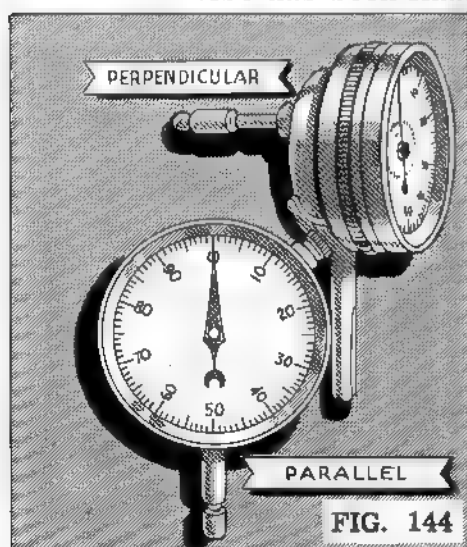

FIG. 144
Dial indicators (Fig. 144) are graduated to read either to one-thousandth part of an inch ($1/1000''$) or to one ten-thousandth part of an inch ($1/10,000''$) with the operator estimating the value when the pointer is not exactly on the line representing the basic dimension. Four practices for setting the vise with an indicator are given.
9. Select an indicator with the contact shaft perpendicular with the dial (Fig. 144). The dial faces upward and can be conveniently read from the operating position.